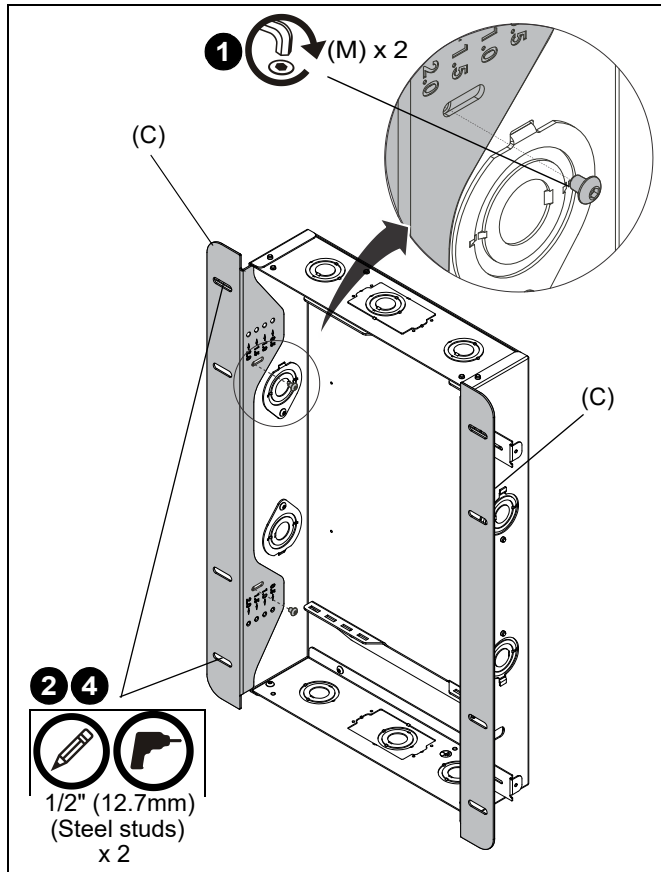

Figure 2
1. Use two #10-24 x 1/4" button head cap screws (M) to secure each side flange (C) to installed box. Do not tighten screws at this point. (See Figure 2)
4. Drill a hole at each marked location. (See Figure 2)